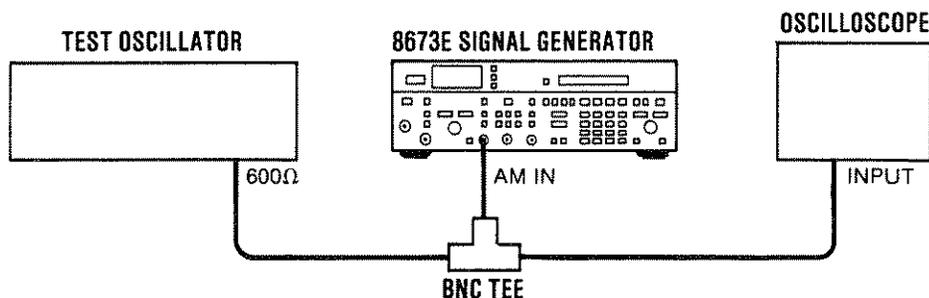

Figure 3-8. AM Functional Check Setup
26. Set the test oscillator to 10 kHz at an output level of 0V. Then, connect the test oscillator and oscilloscope to the Signal Generator as shown in Figure 3-8.